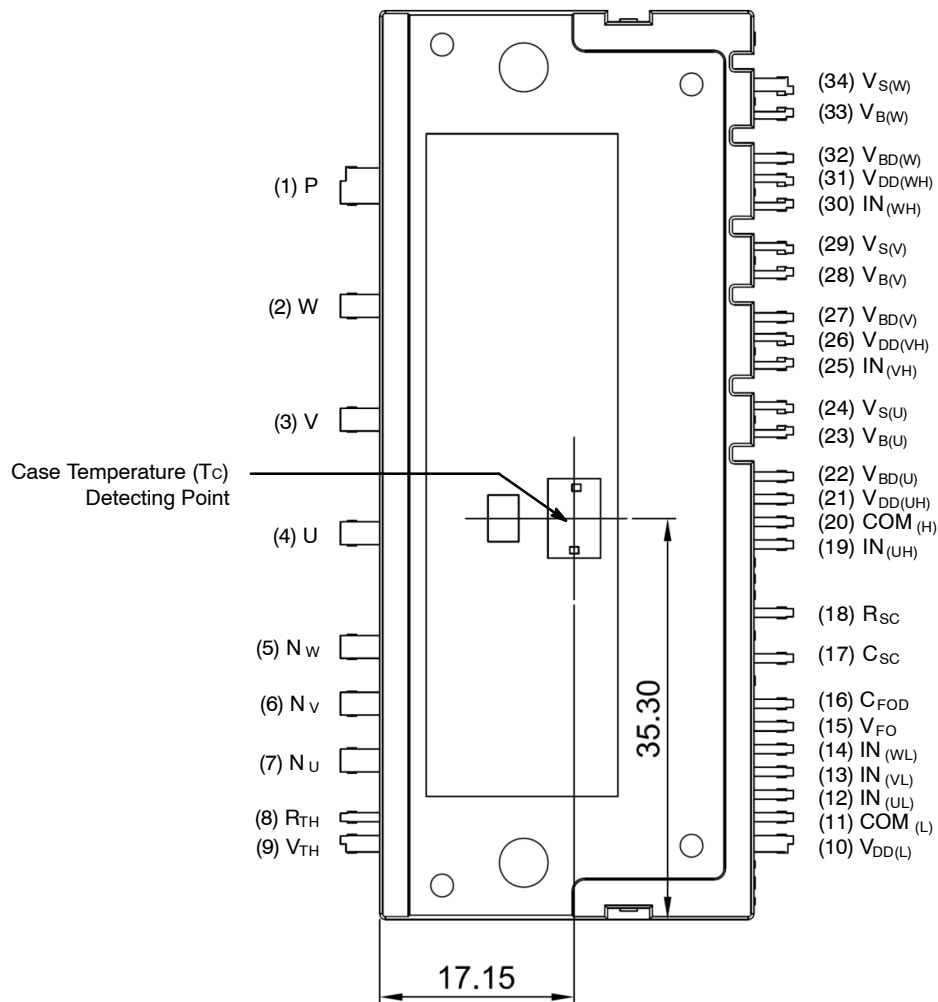

Figure 1. Pin Configuration – Top View
- 1200 V - 50 A IGBT inverter for three-phase DC / AC power conversion (Please refer to Figure 1)
- For the measurement point of case temperature (T_C), please refer to Figure 1. DBC discoloration and Picker Circle Printing allowed, please refer to application note AN-9190 (Impact of DBC Oxidation on SPM® Module Performance).